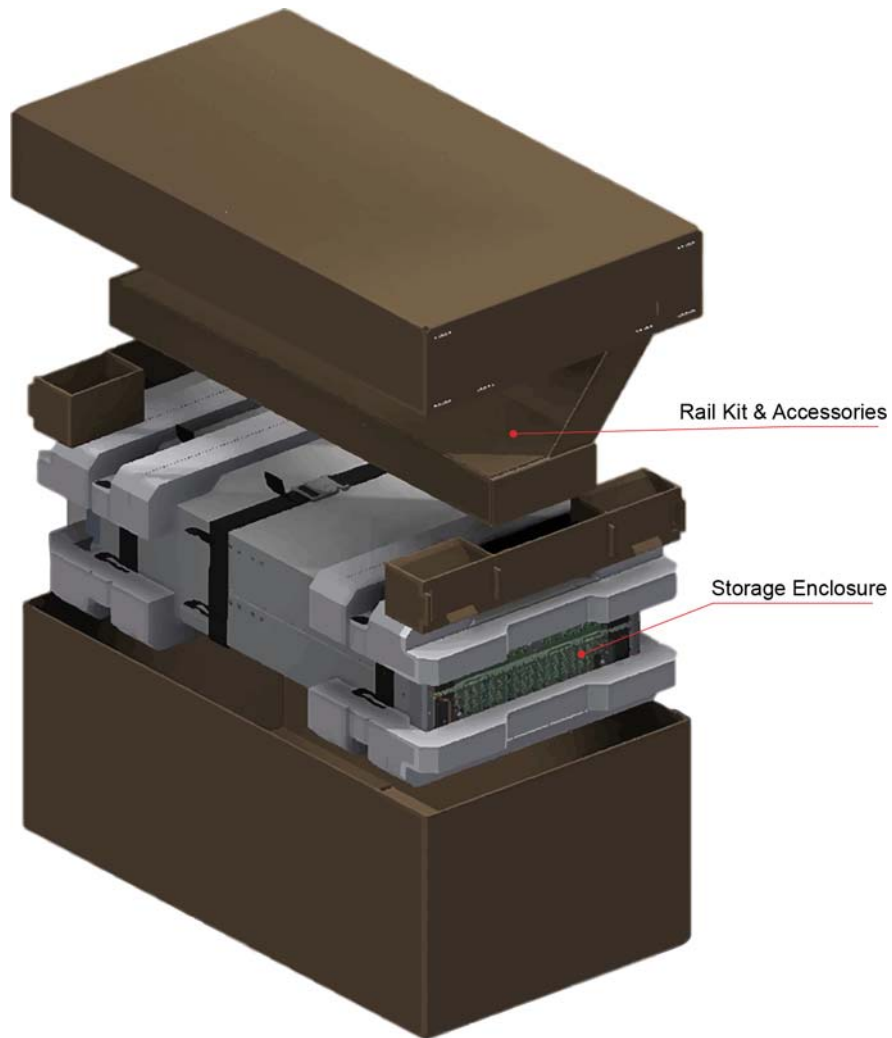

Figure 3–1 Unpacking the System
- 3 Remove the packaging as shown in Figure 3–1.